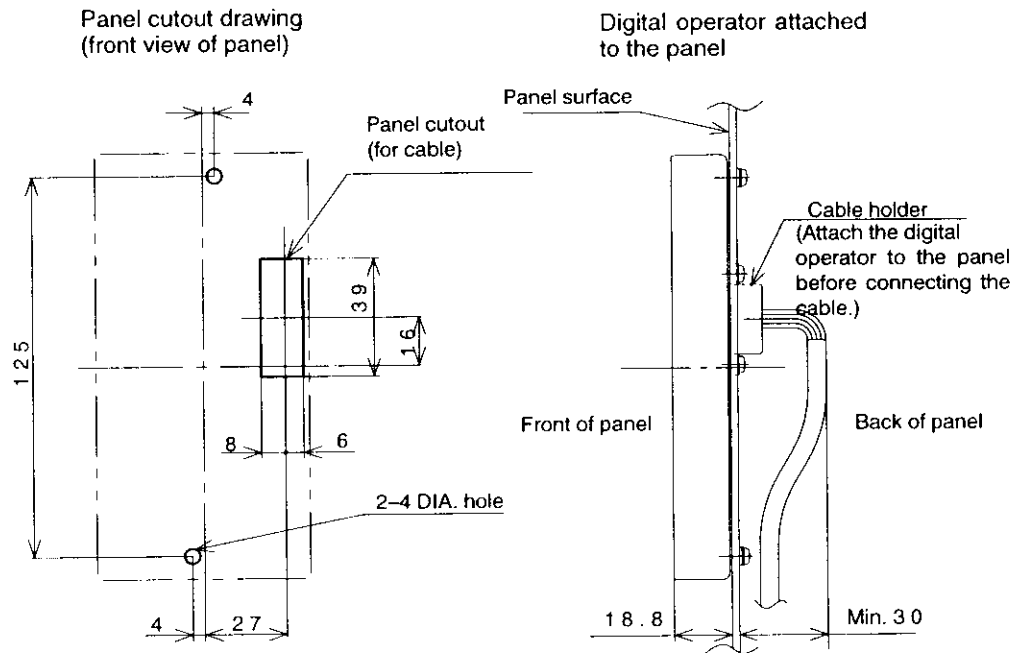

Fig. 2 Method 1
- The digital operator is easily fixed with screws from the back of the panel after drilling holes and a panel cutout on the mounting side, as shown in Fig. 2.